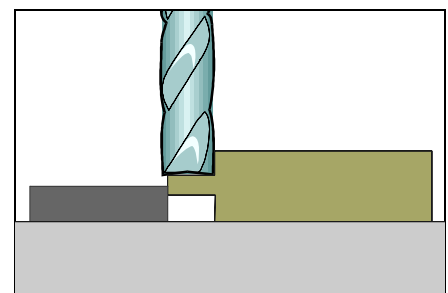

Figure 3: Mill a tongue onto the edge of the replacement base material.
6. Install an end mill into the chuck of a milling machine. Machine a tongue onto the entire mating edge of the replacement base material. The dimensions of the tongue should match the size of the milled groove. (See Figure 3).